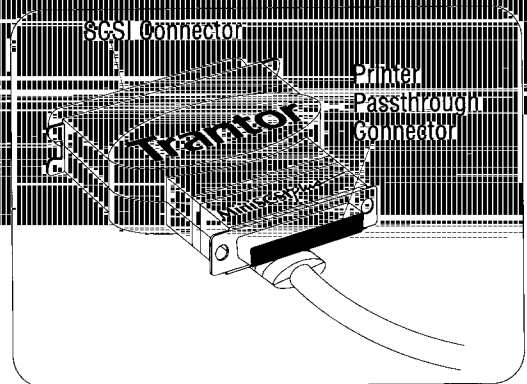

Figure 2 SCSI and Printer Passthrough
3. If you wish to simultaneously use a parallel printer with your **MiniSCSI Plus** adapter, connect it to the **MiniSCSI Plus** printer passthrough connector (see *Figure 2*) with a standard parallel printer cable. No special configuration or switching is needed to continue using your printer.